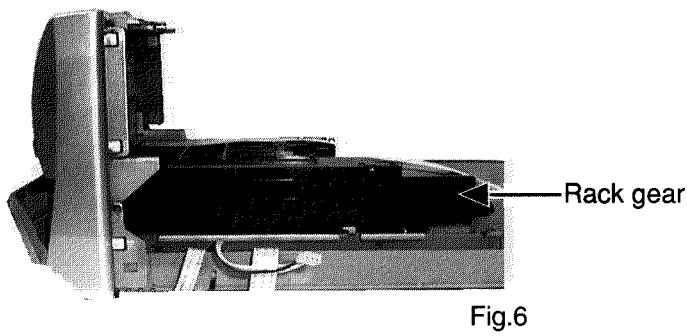

Fig.6
3. Push the Rack gear so that CD tray is open(Fig.6).